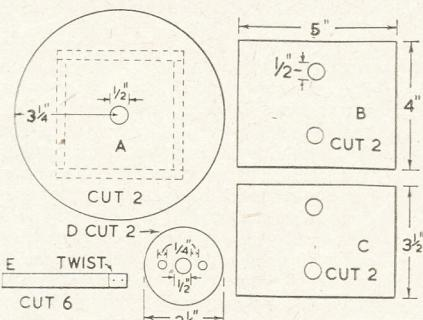

Fig. 1 — The parts of the drum.
As a trial, cut the pieces 3½ins., 3ins., 2½ins., 2¼ins., 2ins. and 1½ins. Drill two small holes in each, at one end, and then, holding them in a vice or between pliers, twist them to a right-angle near the end where the holes have been drilled, as shown at Fig. 1 (E). Divide one of the discs into six equal divisions round the edge (60 degrees each by protractor) then screw one piece of the metal strip in the middle of each section. This is shown at Fig. 3, but for clearness only one of the six notes is shown.